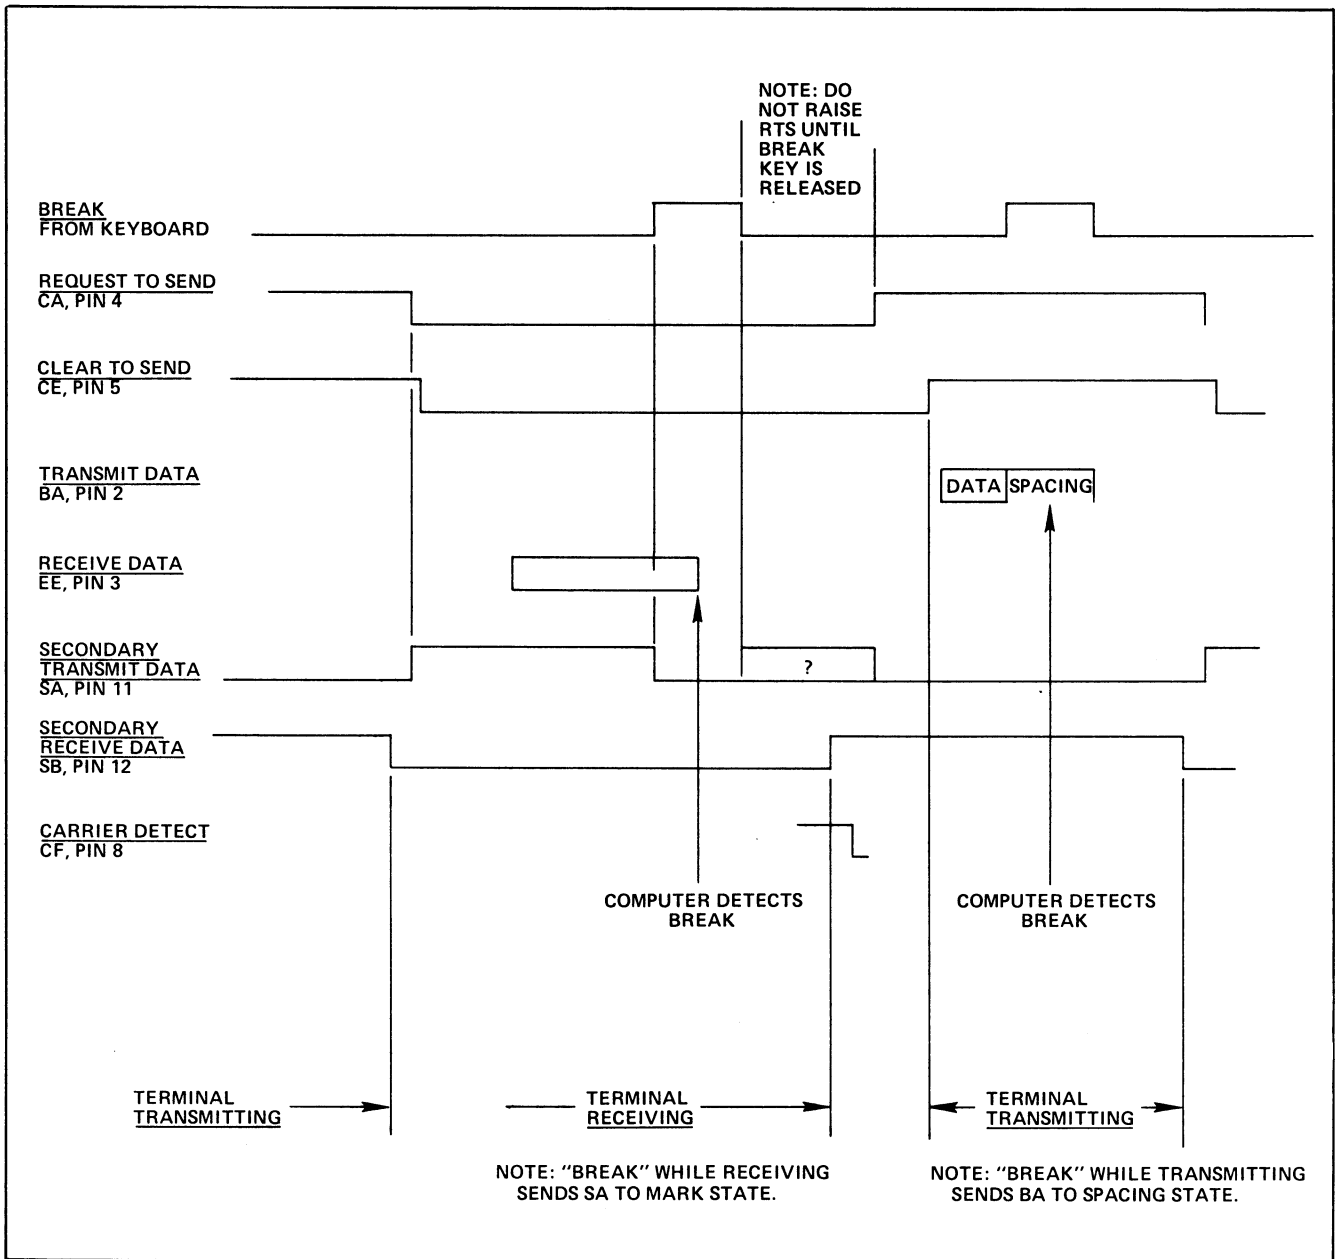

Figure 4-18. Interface Timing for Reverse-Channel Operation
4.3.16.2 Reverse-Channel Control. In reverse-channel operation RTS is controlled by SEC RECV DATA (SB) and CARRIER DETECT (CF) from the modem. When SB goes low, RTS is unconditionally reset (figure 4-18), switching the interface to receive data. In normal reverse-channel receive operation, CF is high at this time, causing SEC XMIT DATA to rise.